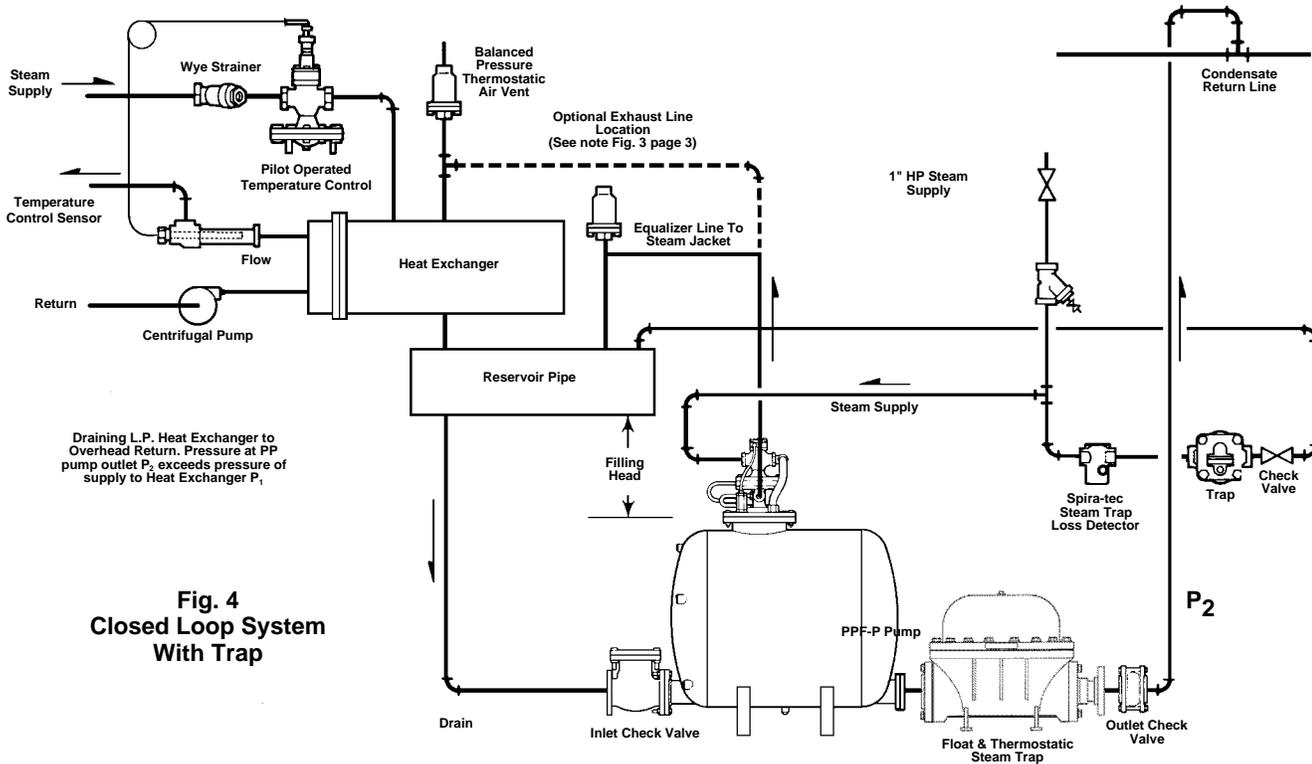

Fig. 4
6. If, at any time, the equipment supply pressure can exceed the back pressure on the pump, a properly sized float and thermostatic trap must be installed between the pump and discharge check valve as shown in Fig. 4 to prevent steam "blow-through."